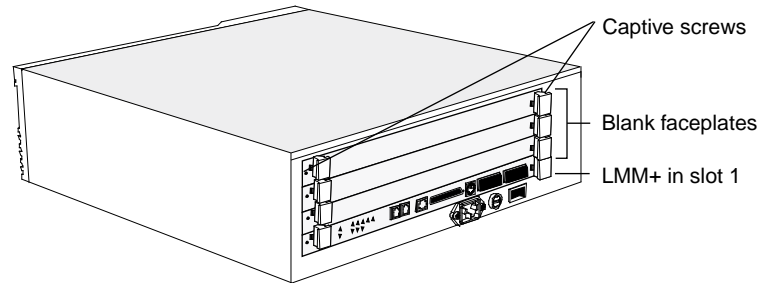

Figure 1 LANplex 6004 with Blank Faceplates
- 1 Unscrew the securing screws on the module's faceplate. See Figure 1.
- 3 Unscrew the securing screws on the module's faceplate. See Figure 1.